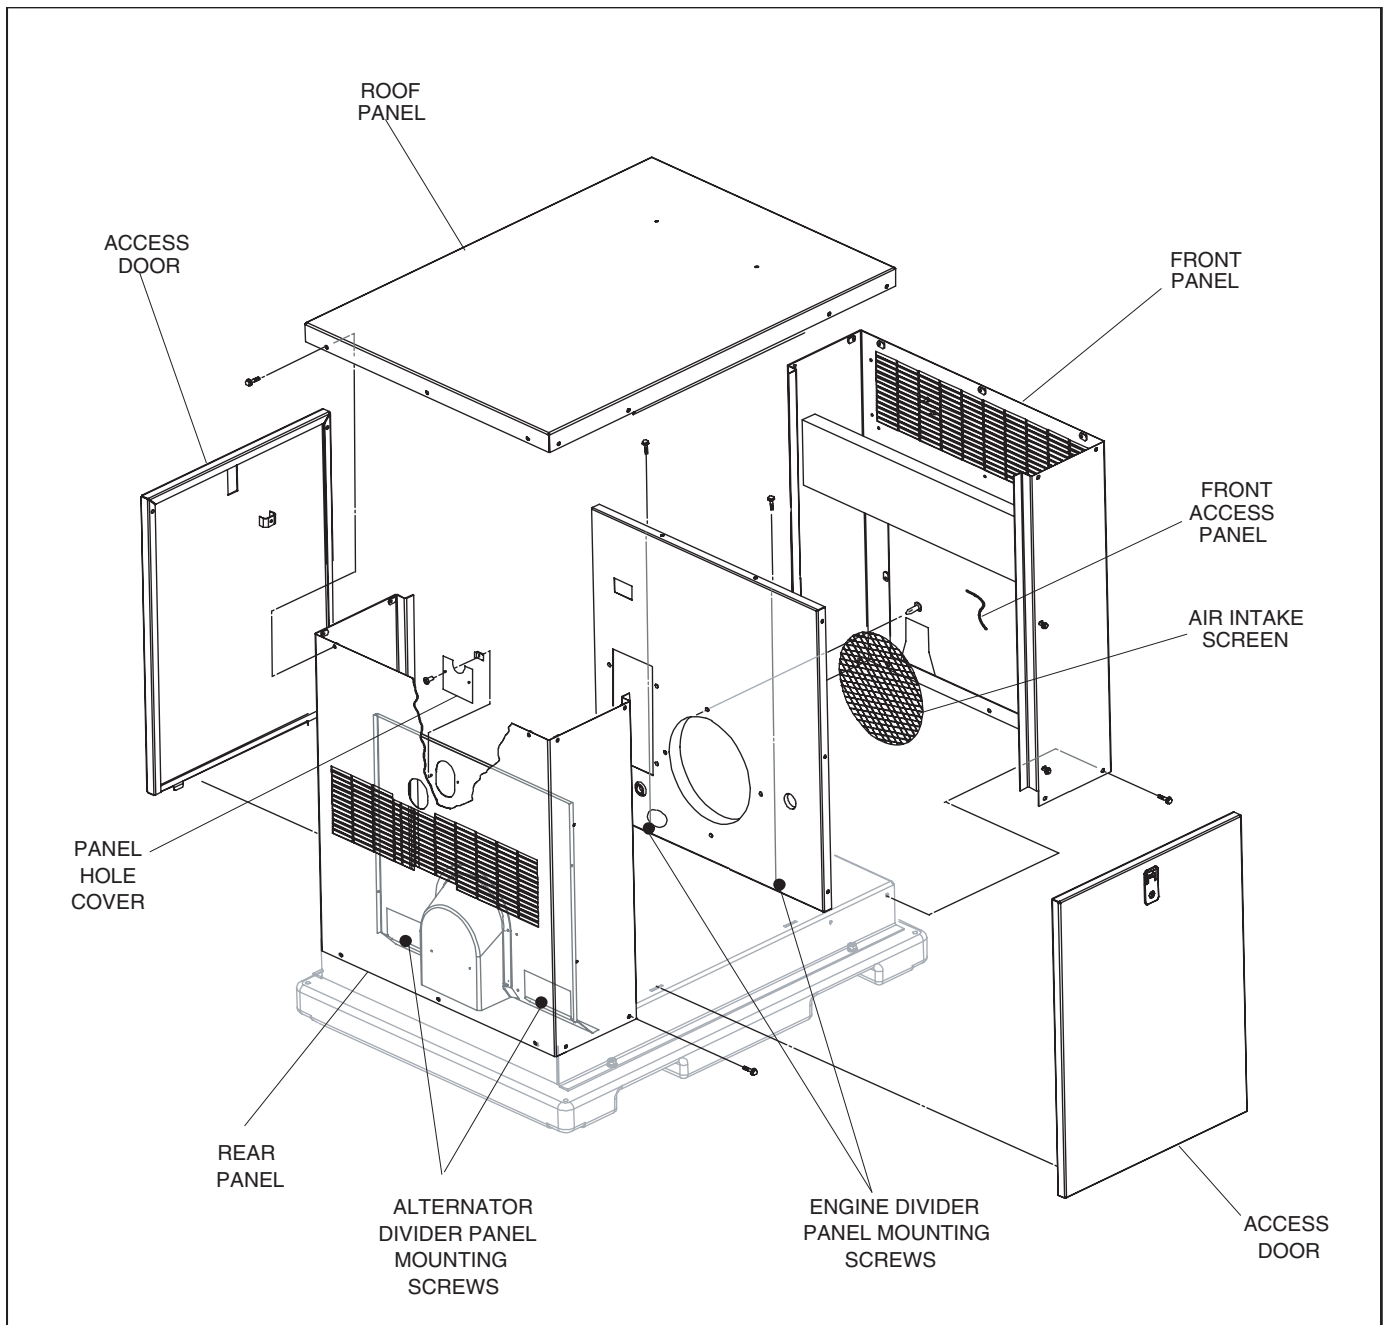

FIGURE 5-1. GENSET HOUSING
- a. Working inside the unit, remove the two screws and the panel hole cover (see Figure 5-1), that is attached to the divider panel (located directly below the exhaust pipe) This must be removed to allow the exhaust pipe to clear the panel during removal.
- b. Inside the unit, remove the two screws located at the base of the divider panel (see Figure 5-1).